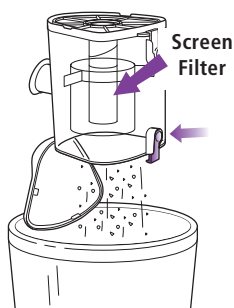

Fig. 19
- If needed, turn the dust cup upside down over the trash receptacle and press the top door release button. (Fig. 19) Tap gently to remove contents. Use a dry cloth or paper towel to remove debris stuck to the screen filter inside the dust cup. Press the door shut again until it clicks.